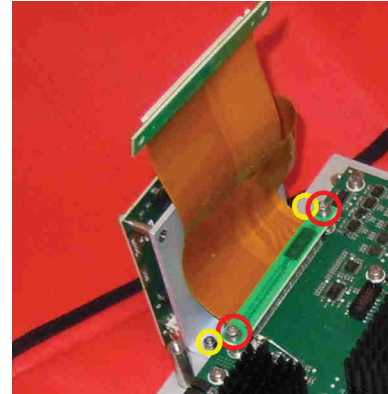

Fig. 10.19 Removal of board
- 8 Remove two screws and two nuts holding the connector and the support angle, respectively. See Fig. 10.19 (p. 140) - red circles indicate two screws on connector (tools 1/7), yellow circles indicate the two nuts holding the support angle (tools 1/2).